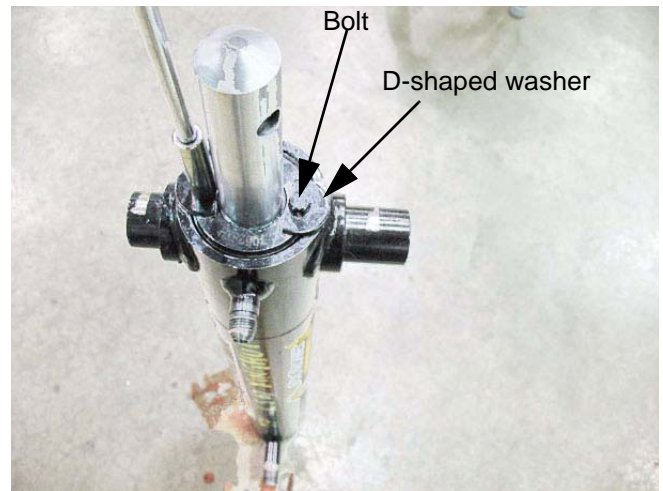

Figure 5.35
- 3.34. Install the bolts and D-shaped washers to lock the end cap in place. See Figure 5.35.